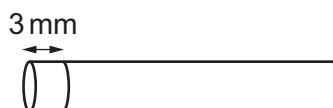

Fig. 1.1
Step 3 Put the potato cylinders onto a white tile and cut each potato cylinder into 3 mm discs, as shown in Fig. 1.1.